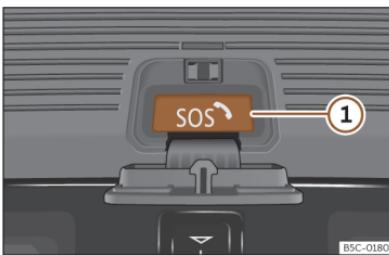

Fig. 48 Emergency call button.
2. Press and hold the emergency call button for a few seconds **>>> Fig. 48 ①**.
>>> Fig. 48 in the event of an emergency.
The automatic emergency call cannot be interrupted by pressing the emergency call button **>>> Fig. 48**.
2. Press and hold the emergency call button for a few seconds >>> **Fig. 48 ①**.
>>> **Fig. 48** in the event of an emergency.